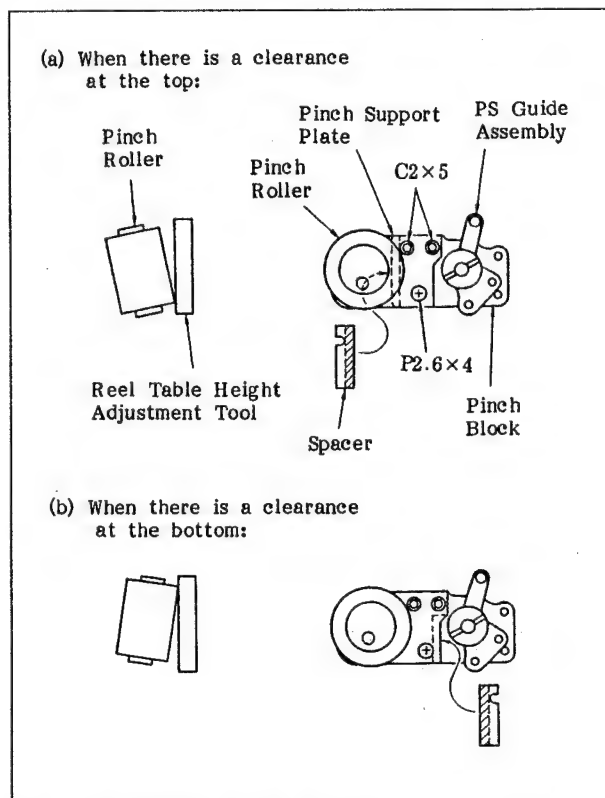

Fig. 6-96 Adjustment of the Azimuth of the Pinch Roller
- i. Loosen the three screws that hold the pinch support plate, shown in Figure 6-96. Then, insert the appropriate thickness of the spacer, shown below, between the pinch support plate and the pinch block and tighten the three screws firmly.